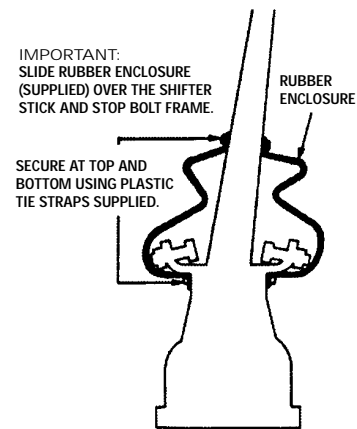

FIG. 11
18. Remove knob from shifter stick. Slide rubber enclosure (supplied) over the shifter stick and stop bolt frame. Secure at top and bottom using plastic tie straps supplied. (Refer to fig. 11). **IMPORTANT!** This rubber enclosure must be installed to prevent dirt and moisture from entering shifter base housing which can cause premature wear of shifter.